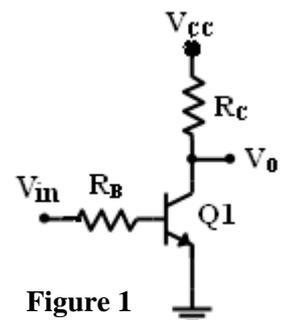

Figure 1
- 1) **Common-Emitter Amplifier (CE):** It is characterized by high voltage and current gains, A_v and A_i , respectively. The amplifier typically has a relatively high input impedance Z_i (1 to 10 k Ω) and high output impedance Z_o so it is generally used to drive medium to high loads. Since the amplifier cannot drive low resistance loads R_L , then usually it is cascaded with a Common-Collector (CC) (*some times called, emitter follower or buffer*) circuit that can act as an impedance matching.
- 2) **Common-Collector (CC):** It is characterized by voltage gain lower than or equal to one ($A_v \leq 1$) and a high current gain A_i . When the circuit has a unity voltage gain ($A_v = 1$), it became an **Emitter Follower** or **Buffer** that provide isolation between two circuits while providing driving capability for low loads resistance. The CC has high input impedance Z_i (1 to 10 k Ω) and low output impedance.
- 3) **BJT Switching Device:** The transistor switch is the basic element of logic circuits since mechanical switches are not used. A schematic of such a switch is shown in Figure 1, where the transistor circuit is switched between cutoff and saturation regions. Open switch condition when $V_{in} < V_{BE-on}$ the transistor will be in cut-off region, $I_B = I_C = 0.0$ mA providing a constant output voltage $V_O = V_{CC}$. Closed switch condition when $V_{in} = V_{CC}$, the transistor is in saturation region and $I_C = (V_{CC} - V_{CE-sat}) / R_C$, providing a small constant output voltage $V_{CE-sat} \cong 0.2V$.